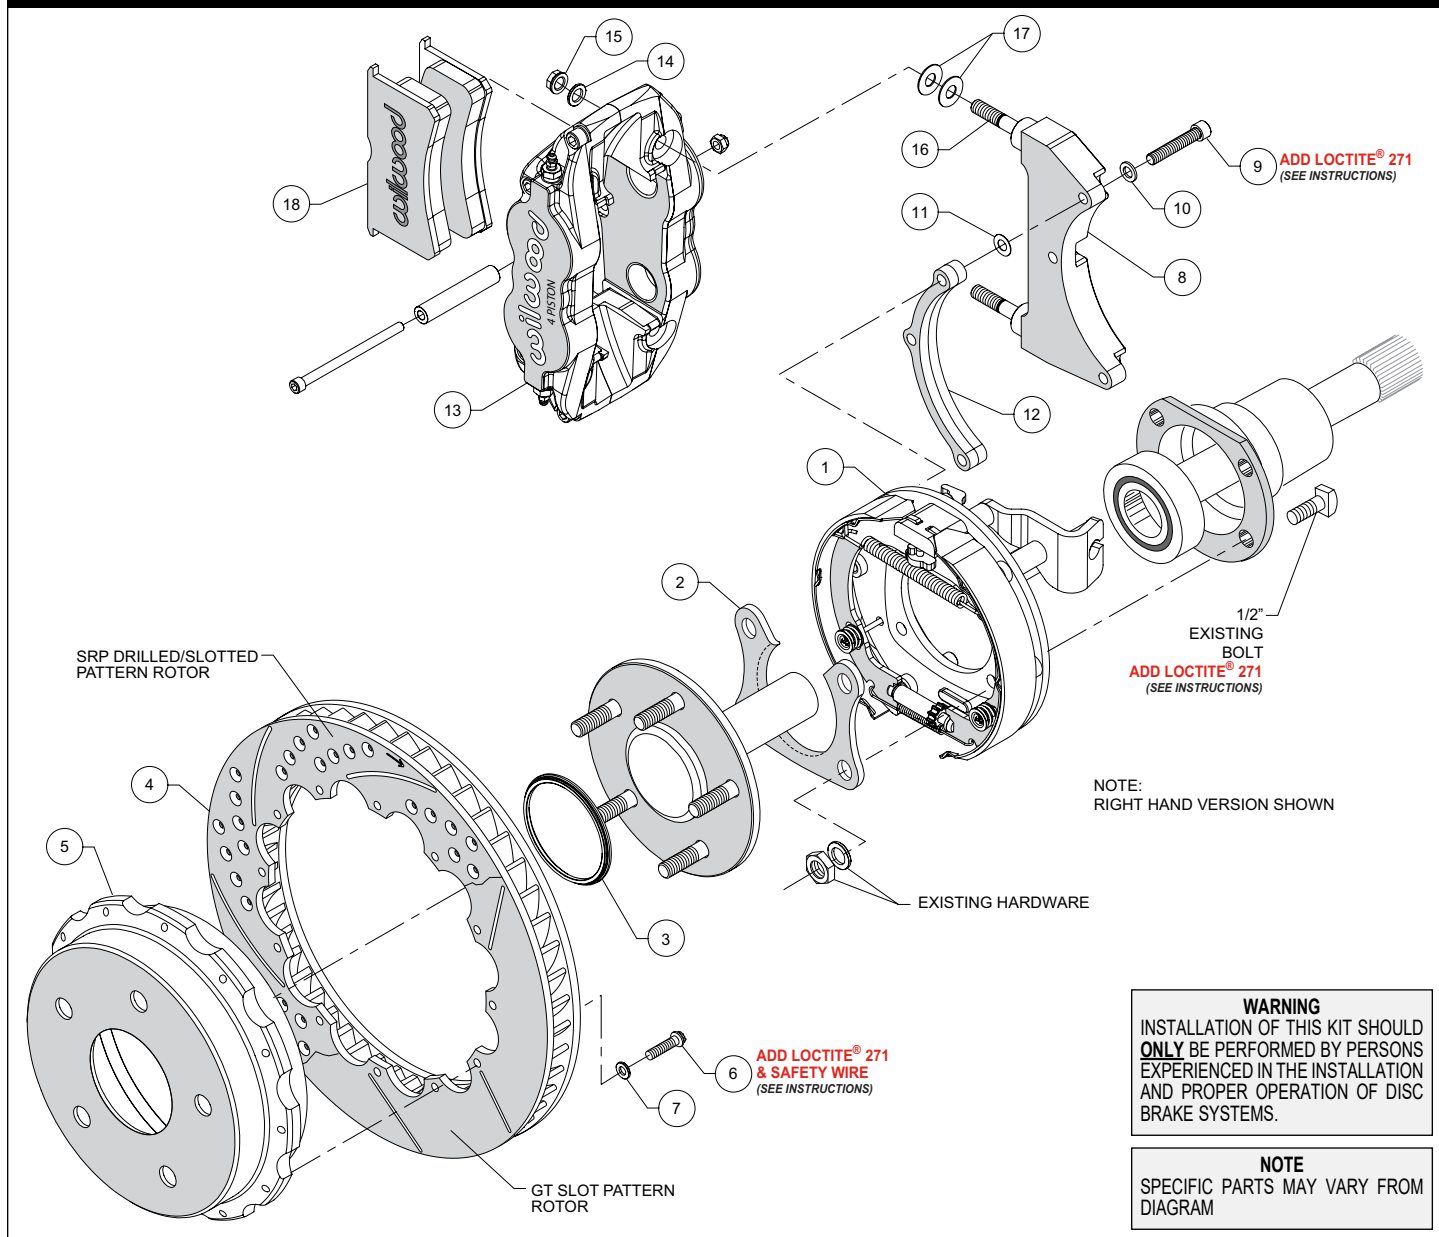
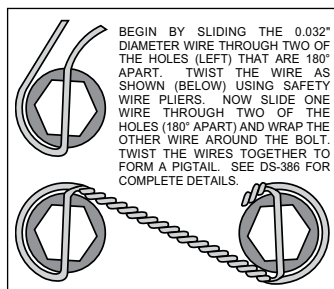

Figure 1. Typical Installation Configuration
Figure 5. Safety Wire Diagram
Assembly Instructions (numbers in parenthesis refer to the parts list, and Figure 1 on the preceding pages): **CAUTION:** All mounting bolts must fully engage clinch nuts. Be sure to check that all bolts are either flush or protruding through flanged side of clinch nut after shimming.
- Orient the bracket assembly (1) as shown in Figure 1 and Photo 1 and slide it onto the axle. Insert the axle and bracket into the axle housing. Ensure that the bracket assembly backing plate fits flush against the axle housing flange.
- Install the bearing retainer (2) with the opening pointing upward and the lip facing inward (toward the bearing), as shown in Figures 1 and 4, and Photo 2. Secure retainer and bracket assembly to the axle housing flange using the Original Equipment Manufacturer (OEM) bolts, washers, and nuts, Figure 1. Apply red *Loctite*® 271 to the OEM bolt threads and torque to OEM specifications.
•**NOTE:** Please reference the caution statement at the beginning of the assembly instructions. The caliper mounting bracket (8) should initially be installed with clean, dry threads on the mounting bolts. Orient the bracket as shown in Figure 1 and Photo 3, and install using bolts (9) and flat washers (10). Initially place one .015" shim washer (11) on each bolt between the bracket (8) and spacer (12), Figure 1. Temporarily tighten the mounting bolts. **NOTE:** End of bolt should not exceed inside face of insert. The bracket must tighten squarely against the back side of the bracket kit assembly (1). Inspect for interference from casting irregularities, machining ridges, burrs, etc. Later, after the caliper alignment has been checked, the mount bolts will be secured using red *Loctite*®.
•Orient the rotor (4) and the hat (5) as shown in Figure 1 and Photo 3. Attach rotor to hat using bolts (6) and washers (7). Apply red *Loctite*® 271 to the bolt threads and torque to 140 in-lbs using a criss-cross pattern. For an added measure of security, the bolts may be safety wired using standard 0.032 inch diameter stainless steel safety wire as shown in Figure 5. Please refer to Wilwood's data sheet DS-386 (available at www.wilwood.com/Pdf/DataSheets/ds386.pdf) for complete safety wire installation instructions.
•Slide the rotor registration adapter (3) onto the axle register on the axle flange with the smaller O.D. facing toward the rotor/hat (4/5), Photo 5. Align the hole pattern in the hat with the stud pattern on the axle flange and slide into place, Figure 1 and Photo 6. **NOTE:** The rotor/hat must fit flush against the axle flange or excessive rotor run out may result. Install three lug nuts (finger tight) to keep the rotor/hat assembly in place while continuing with the installation. **NOTE:** Some OEM and after market axles come with stud sizes larger than 0.50" diameter. Verify stud size and have a qualified machine shop drill the bolt circle of the hat/rotor to the correct stud size, if necessary.
•Initially place two .035" thick shims (17) on each stud as shown in Figure 1 and Photo 7. Mount the caliper (13) onto the bracket (8) using lock nuts (15) and washers (14), Figure 1. Temporarily tighten the lock nuts and view the rotor through the top opening of the caliper. The rotor should be centered in the caliper, Photo 8. If not, adjust by adding or subtracting shims (11) between the bracket (8) and the spacer (12). Always use the same amount of shims on each of the three mounting bolts. Once the caliper alignment is correct, remove the bracket mounting bolts (9) one at a time, apply red *Loctite*® 271 to the threads, and torque to 180 in-lb.